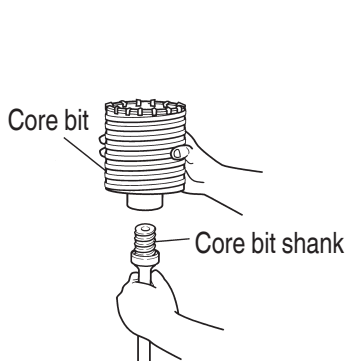

Fig. 28
- (1) Mount the core bit to the core bit shank. (Fig. 28)